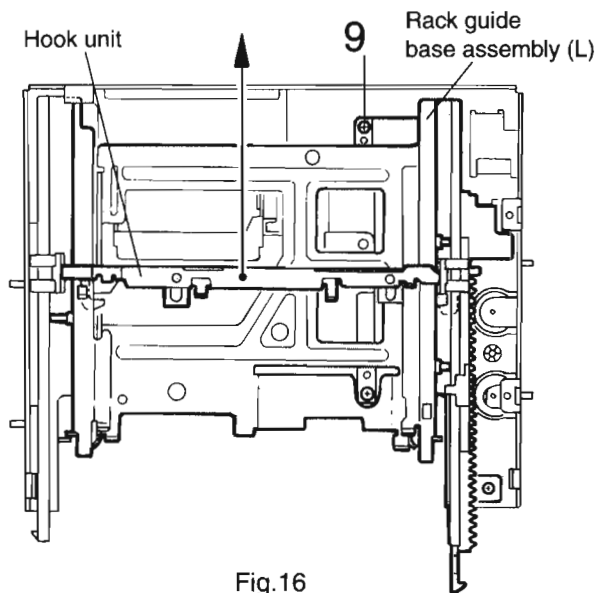

Fig.16
4. Remove the three screws 9 attaching the Rack guide base assembly. Then remove the Cartridge holder unit and the Rack guide base assembly (L) from the Elevator base assembly.
5. Draw the Hook unit from the Cartridge holder unit in the direction of the arrow (see Fig.16).
6. After removing the two screws A attaching the Rack guide base assembly, remove the Rack guide base assembly (R) from the Elevator base assembly.
7. Remove Timing gear (R) and two Gear W3s.